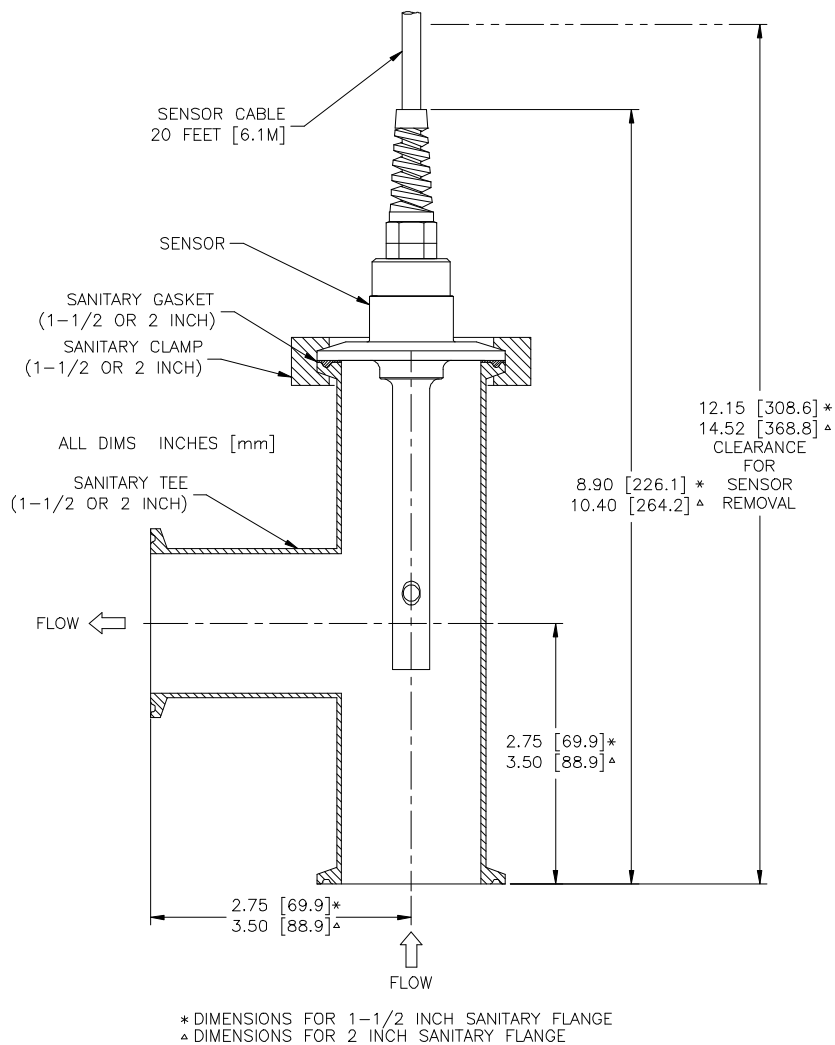

FIGURE 2-2 Sanitary (CIP) Flange Mounting Details
- Install the sensor into the pipe run so that the process flows directly into the end of the sensor (see Figure 2-2).